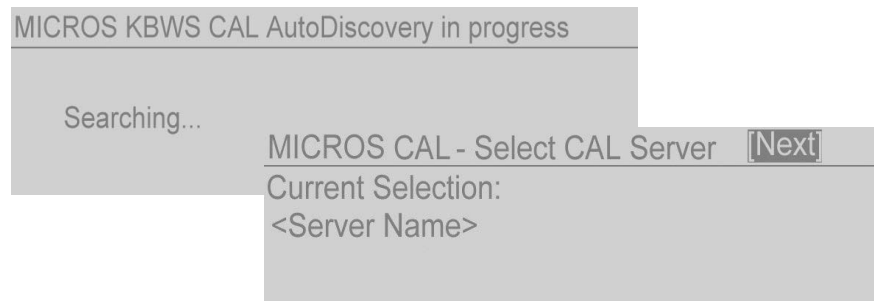

Figure 3-10: The Keyboard Workstation 4 CAL
- If a POS application is not installed, the KWS4 CAL determines this and listens for a CAL server on the LAN. When contact is established, CAL displays a screen similar to that shown in the lower half of Figure 3-10, below.